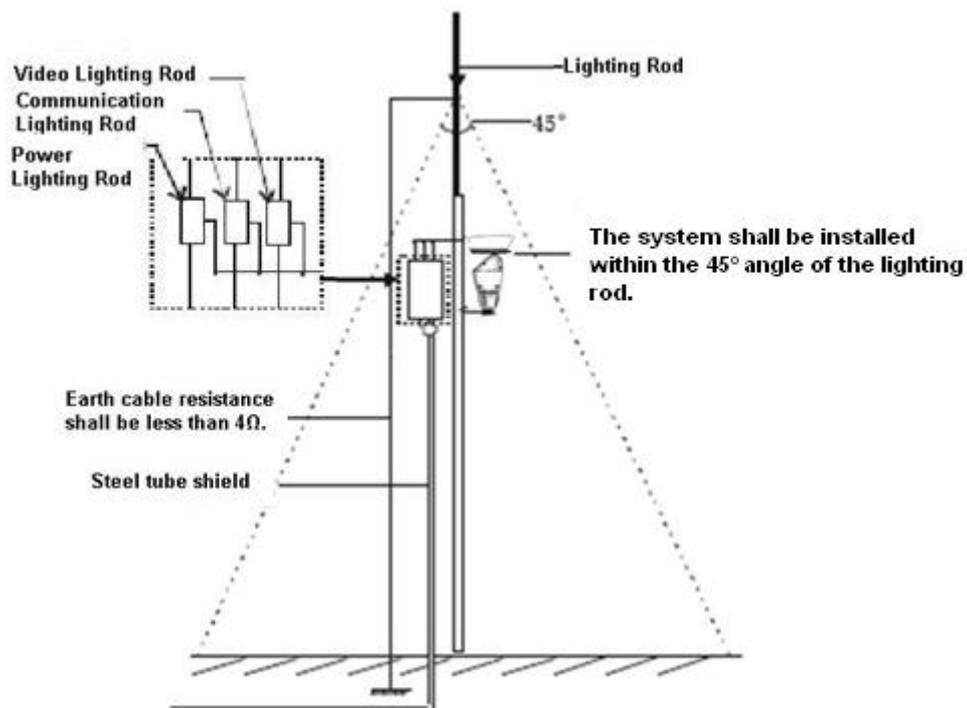

Figure 3-1
- System shall adopt equal-potential wiring. The earth device shall meet anti-jamming and at the same time conforms to your local electrical safety code. The earth device shall not short circuit to N (neutral) line of high voltage power grid or mixed with other wires. When connect the system to the earth alone, the earth resistance shall not be more than 4Ω and earth cable cross-sectional area shall below 25 mm^2 . See Figure 3-1.